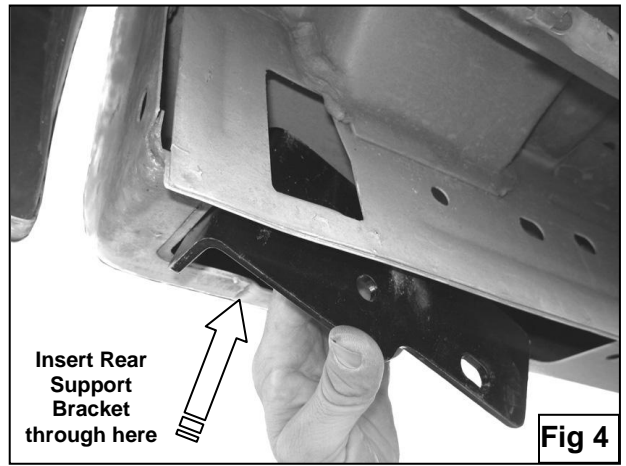
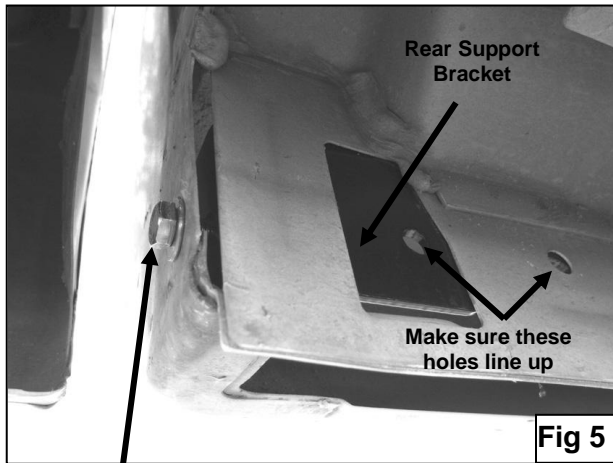

Fig 4
Fig 5
5. With the 90° bend towards the rear of the vehicle and facing the side of the vehicle, insert the driver side rear Support Bracket through rectangular hole located in the bottom of the body (**Figure 4**). Line up the hole in the 90° bend with factory hole located between the cab and the bed of the vehicle and secure it using the included (1) 10mm x 30mm Hex Head Bolt, (1) 10mm Lock Washer, (1) 10mm Hex Nut, and (2) 10mm Flat Washers. Tighten at this time (**Figure 5**). **NOTE:** Before tightening make sure that the two holes on the longer side of the Support Bracket lines up with the two factory holes located in the side panel.